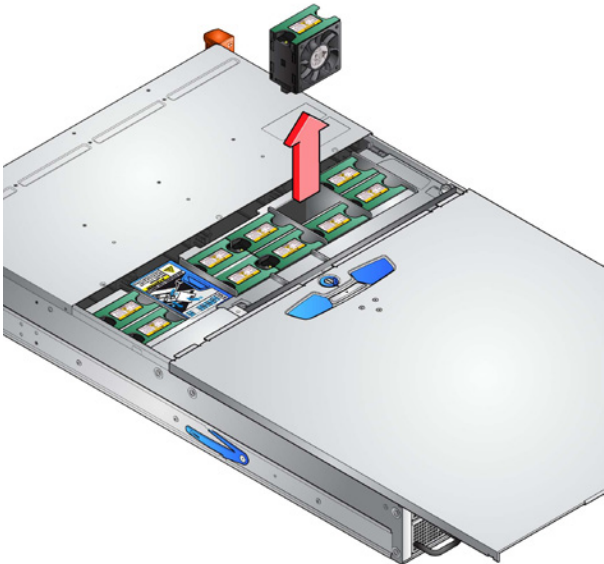

Figure 6: Removing a Fan
2. Grip the faulty Fan module with finger and thumb and pull it upwards in order to unplug it, and remove it from the enclosure (see Figure 6).